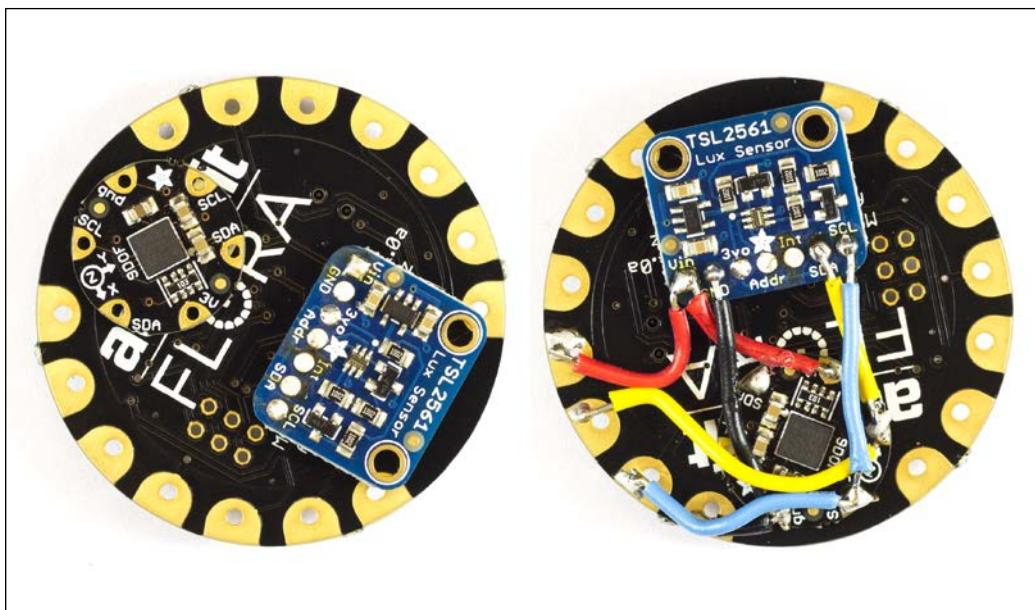

Figure 3.5: The TSL2561 and accelerometer connected and soldered to the FLORA board
*Figure 3.5* shows how the sensors can be connected to the FLORA board. The setup to the left in *Figure 3.5* shows how the sensors have been attached to the FLORA board using hot glue. The hot glue also acts as a separator, so the sensors do not come in direct contact with the FLORA board, avoiding short circuits. To the left in *Figure 3.5*, you will find the necessary connections soldered. If you're new to soldering, I would suggest training before you attempt soldering the sensor to the board, since it is a bit tricky. Beware of cold soldering and exposed wiring, and take your time with the soldering. Cold soldering are solder joints with a bad connection due to the solder not melting properly. In the following link, you can find more information about cold soldering and what it looks like: <https://learn.adafruit.com/adafruit-guide-excellent-soldering/common-problems>.